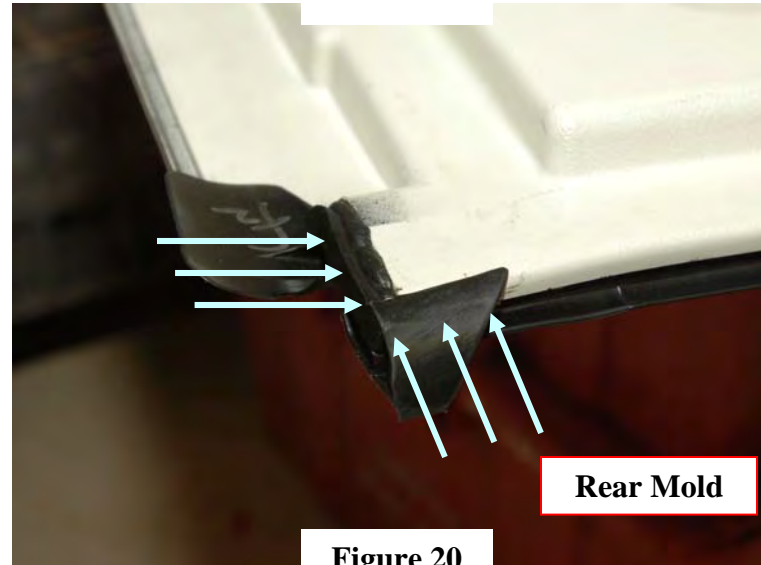

Figure 20
- Compress butyl by installing seal in direction of arrows (Figure 20)
- Note: No gap between installed seal and outer edge of freedom panels. (Figure 20)